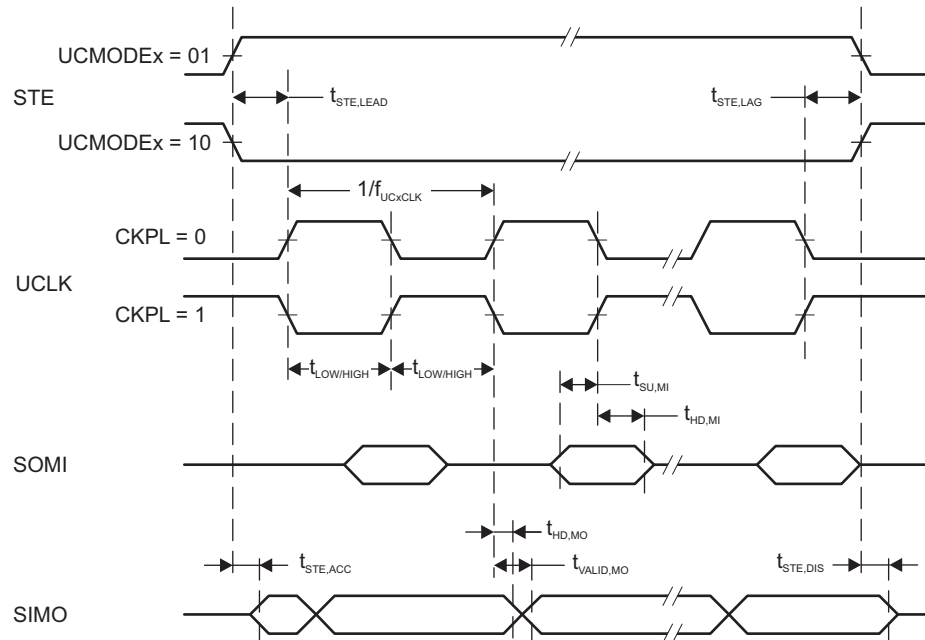
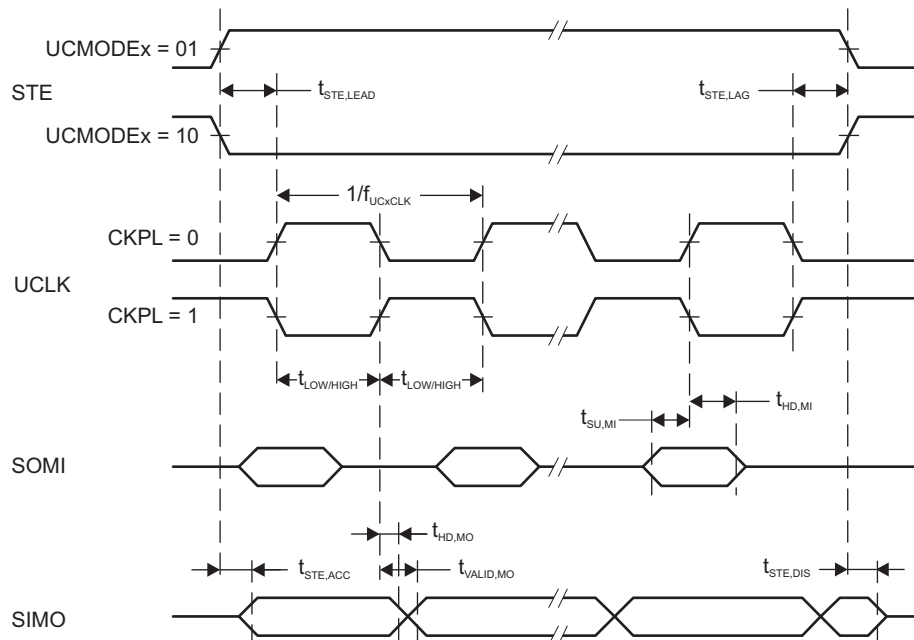

Figure 5-13. SPI Master Mode, CKPH = 0
Figure 5-14. SPI Master Mode, CKPH = 1
- (1) f_{UCxCLK} = 1/2t_{LO/HI} with t_{LO/HI} = max(t_{VALID,MO}(eUSCI) + t_{SU,SI}(Slave), t_{SU,MI}(eUSCI) + t_{VALID,SO}(Slave)). For the slave parameters t_{SU,SI}(Slave) and t_{VALID,SO}(Slave), see the SPI parameters of the attached slave.
- (2) Specifies the time to drive the next valid data to the SIMO output after the output changing UCLK clock edge. See the timing diagrams in Figure 5-13 and Figure 5-14.
- (3) Specifies how long data on the SIMO output is valid after the output changing UCLK clock edge. Negative values indicate that the data on the SIMO output can become invalid before the output changing clock edge observed on UCLK. Refer to the timing diagrams in Figure 5-13 and Figure 5-14.